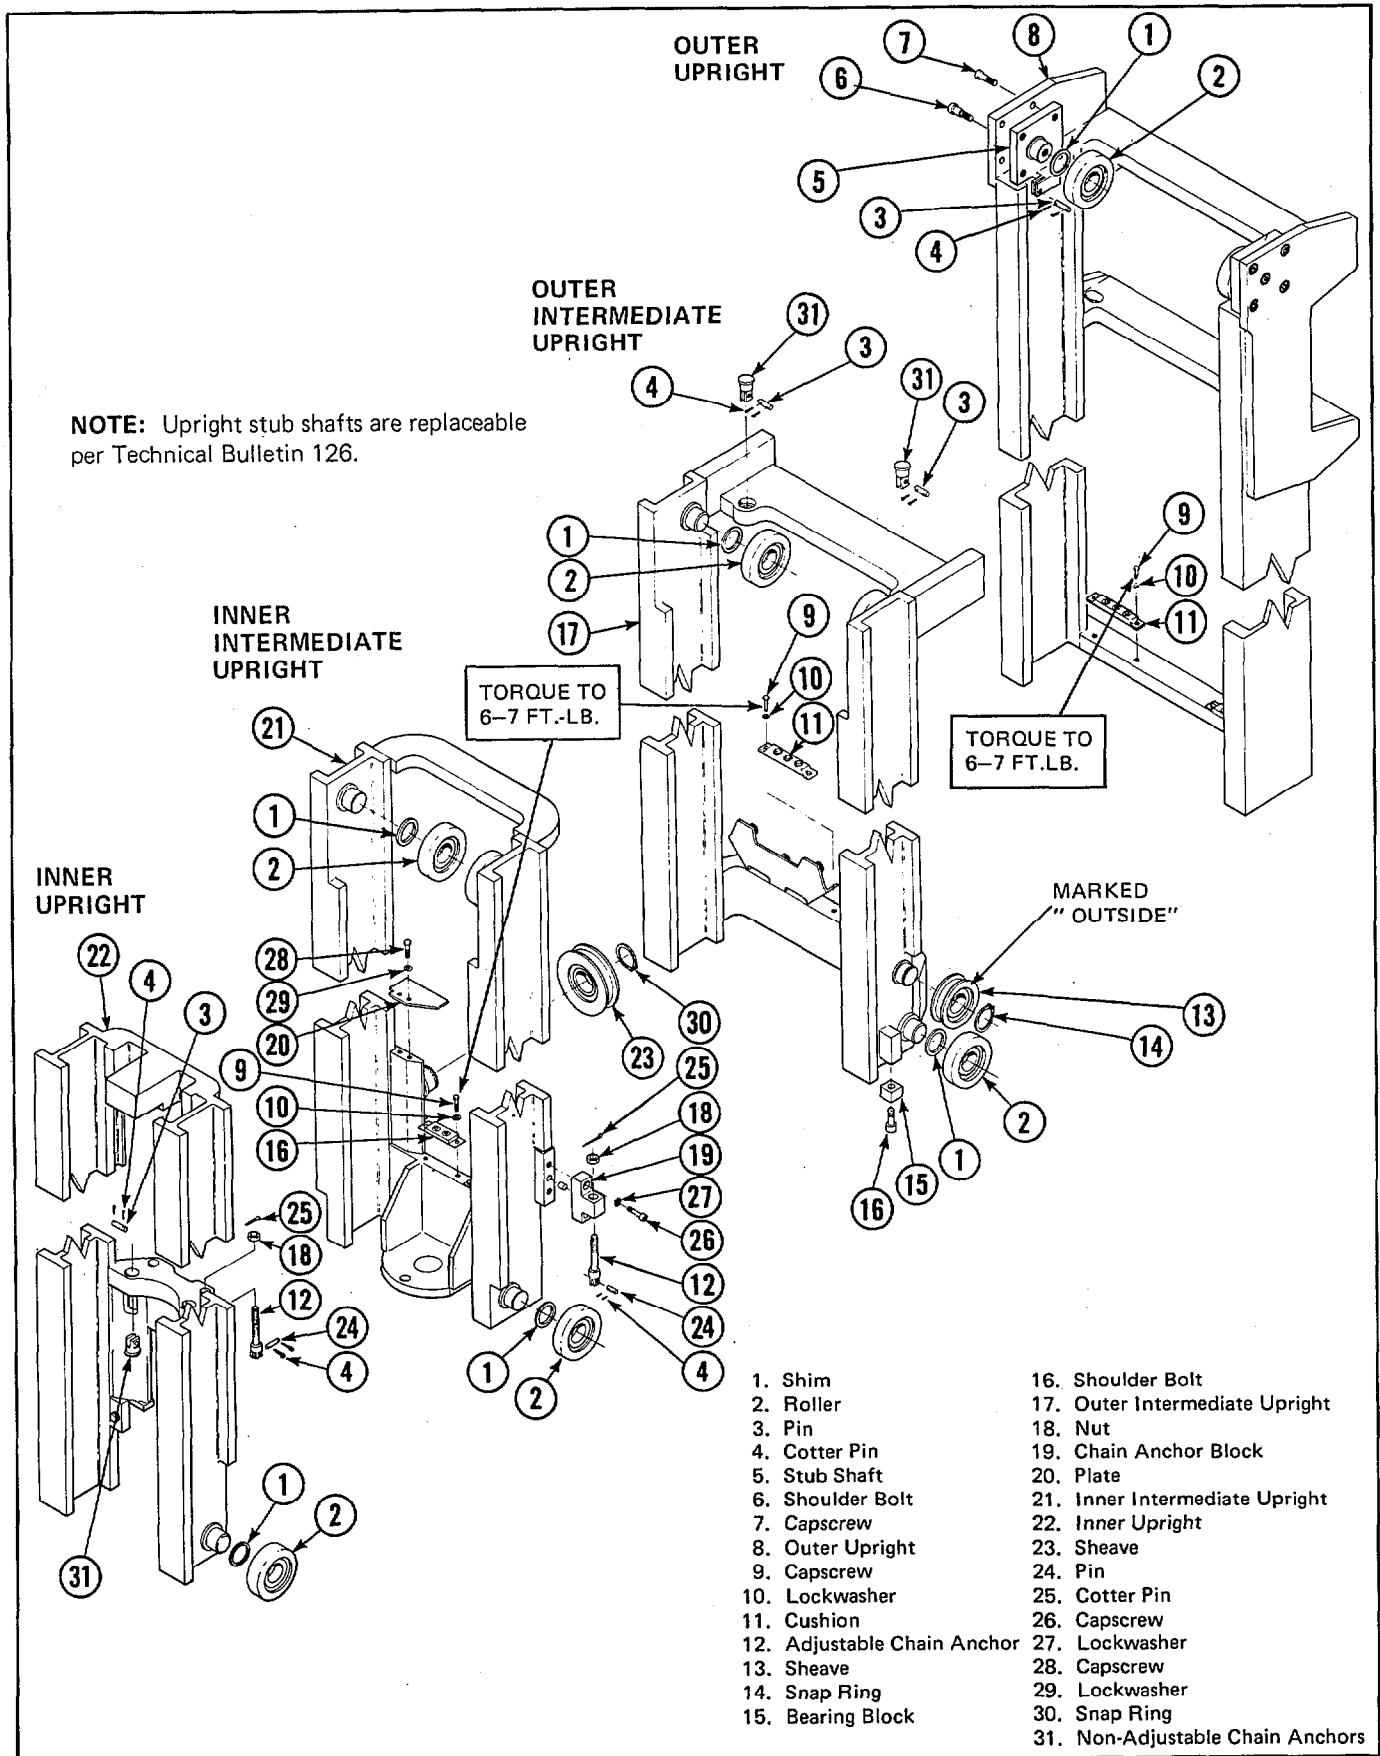

Figure 27. Exploded View of Mast Upright Assembly
The Quad Viewmast® II is comprised of four upright assemblies: outer, outer intermediate, inner intermediate, and inner. See Figure 27.
The outer upright is mounted to the truck. A pair of shim-adjustable load rollers fits onto stub shafts which are mounted on removable plates. See Figure 27. Non-adjustable chain anchors are also located on each plate. A pair of urethane cushions are attached to the lower crossmember to provide a cushion for the outer intermediate upright when the mast is fully lowered.
The outer intermediate upright assembly telescopes within the outer upright assembly. A pair of shim adjustable load rollers is attached to canted stub shafts at the top of the upright and a pair is attached near the bottom of the upright. In addition, a pair of chain sheaves is located near the bottom of the intermediate upright to provide a rolling surface for the hoist chain. A pair of non-adjustable chain anchors are located on the top crossmember. Bearing blocks (item 15, Figure 27) and capscrews located on each side of the upright at the bottom **limit** the outer intermediate upright assembly when the mast is extended and tilted back. These blocks are movable to provide the tightest fit. A cushion is attached to the outer intermediate upright lower crossmember to cushion the inner intermediate upright when the mast is fully lowered.